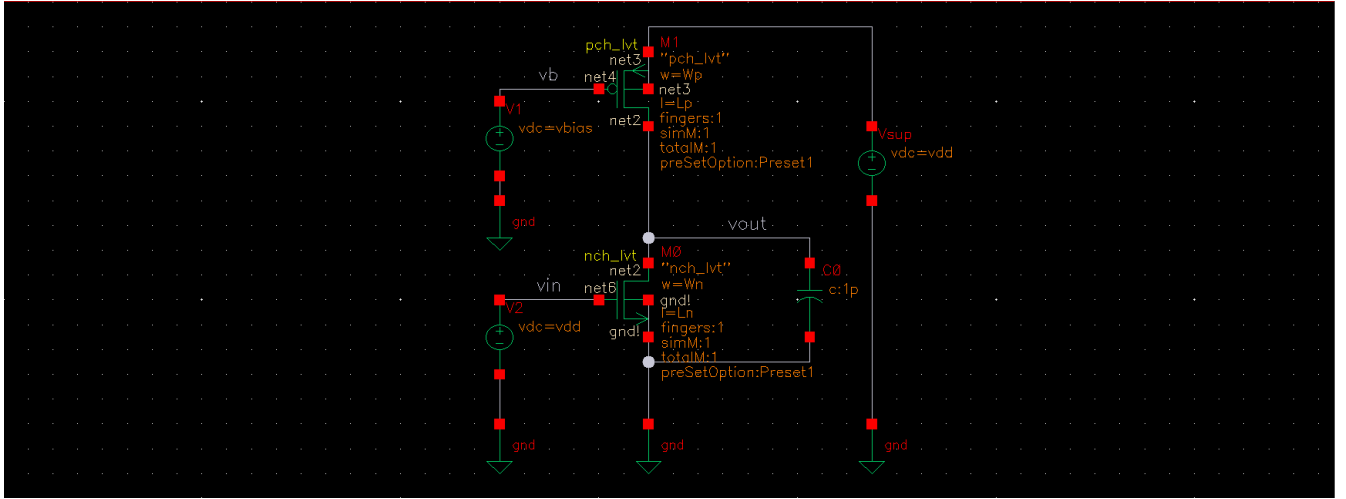

Figure 10. Common source stage with current source load topology for DC and AC analysis
Instruction: Assemble the circuit as shown in **Figure 10**, setting parameters for power supplies (using v_{dc} source), with $L_n = 60nm$, $L_p = 60nm$, $v_{dd} = 1.2V$
- Using DC analysis testbench as Figure 10, set the value of v_{gs} equal to the value chosen in DC analysis. Set value **ac voltage** of V1 source equals to $1V$.